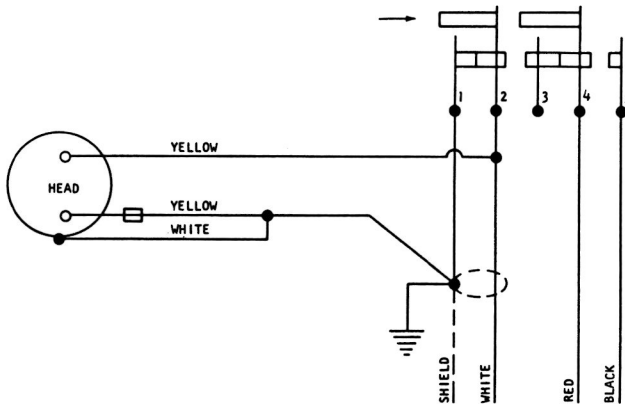

Figure 4 - Wiring, Relay Operation
B. The model 619 (Hi-Z) is shipped with switch connected as shown in Figure 4 with red and white cable conductors connected to switch terminals #4 and #5 respectively, for operation of an external relay. To revise connections for electronic switching, perform the following steps (Figure 5) :
7. Now turn entire switch assembly so top surface of the switch bar faces the front of the microphone and, making sure all leads are neatly positioned at back of microphone neck along rib "J", push the switch assembly into the neck until the switch button is aligned with the opening. (Fig. 4)